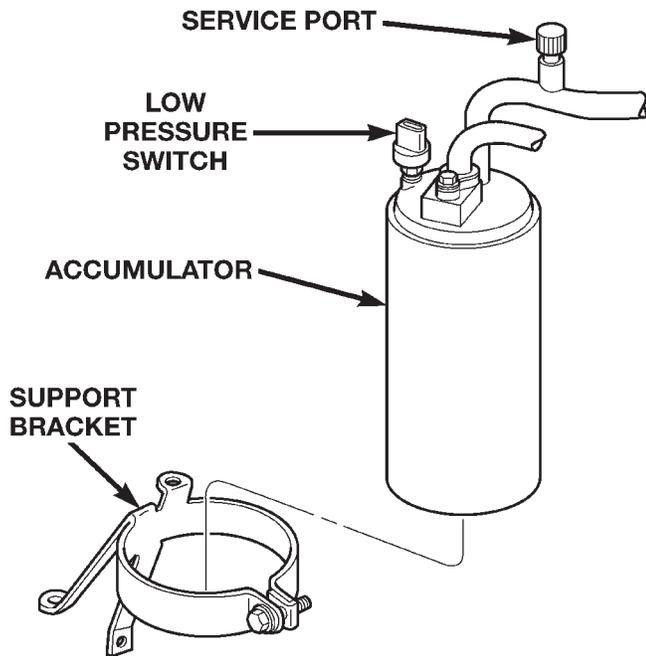

Fig. 57 Accumulator and Support Bracket
- (1) Disconnect and isolate the battery negative cable.
- (2) Unplug the wire harness connector from the low pressure cycling clutch switch on the top of the accumulator.
- (3) Unscrew the low pressure cycling clutch switch from the fitting on the top of the accumulator (Fig. 57).